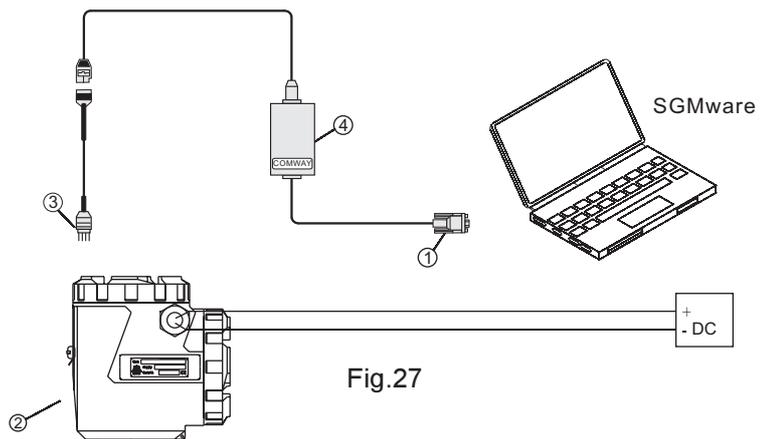

Fig.27
6.3.2 Connection by I²C (fig.27)